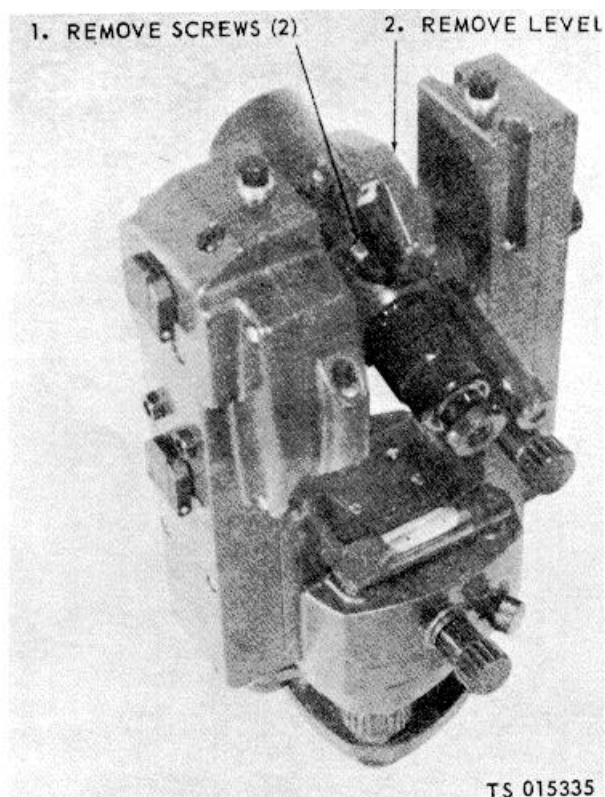

Figure 5-2. Telescope level, removal and installation.
a. *Removal.* Refer to figure 5-2 and remove the telescope level assembly.